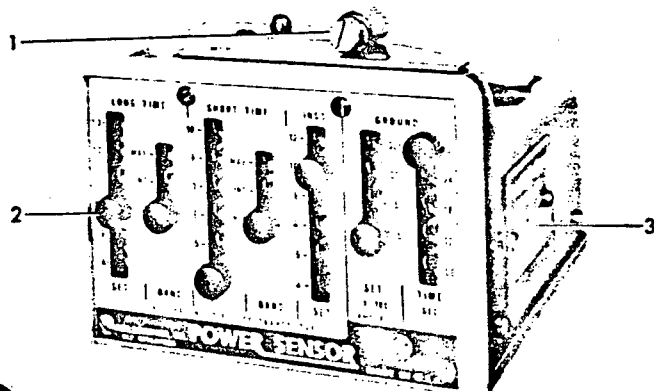

Figure 16. (8041864) Power Sensor Unit
POWER SENSOR UNIT (Figure 16).
3. The Power Sensor Unit with the various pick-up settings and time delay selection taps (Figure 16).